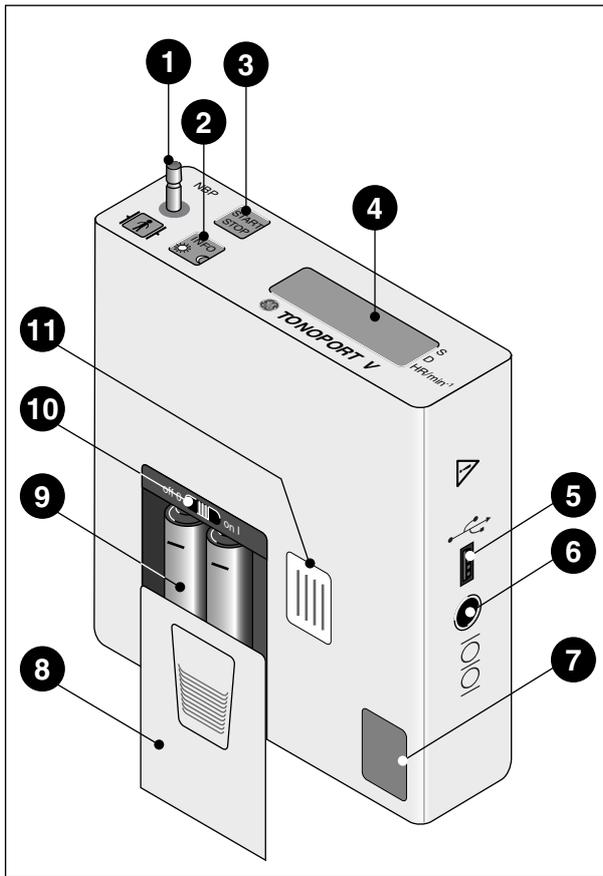

Fig. 2-1 TONOPORT V controls and indicators
*Switch TONOPOINT V off before inserting the batteries. To do so, slide the ON/OFF switch (10, Fig. 2-1) to the left while looking at the display.*